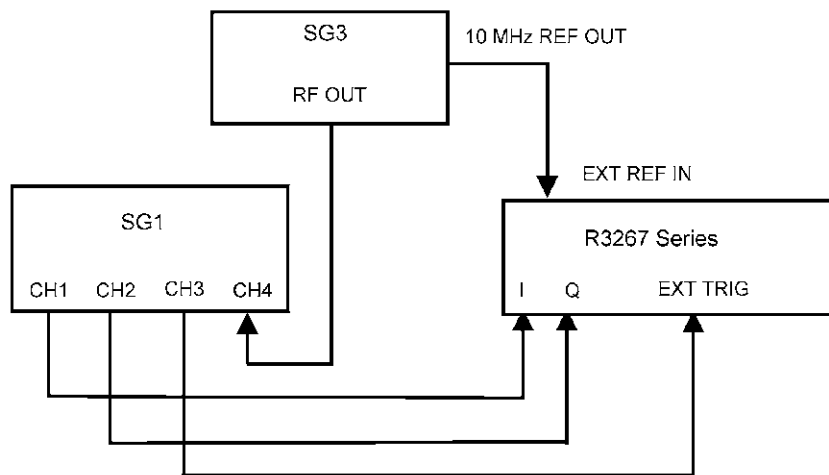

Figure 6-4 Setup of Code Domain Measurement (in IQ Input) (Forward Link)
1. Connect the R3267 series equipment to the signal generator as shown in Figure 6-4.